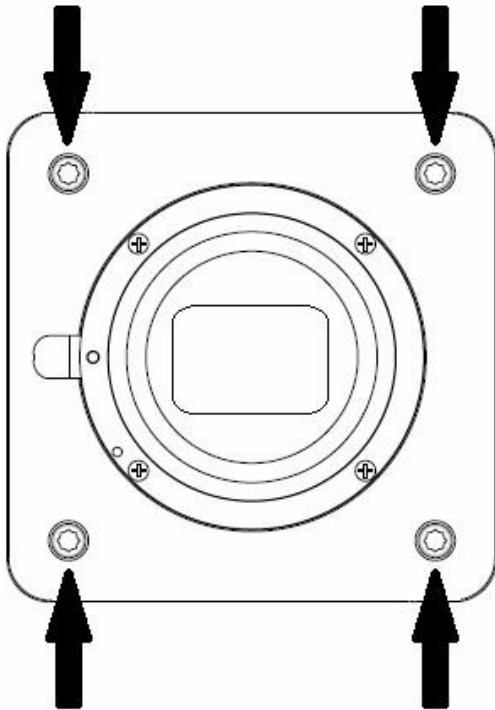

Figure 2-1: Lensmount fixation points
2. Remove the lensmount by unscrewing the 4 screws (m3x6 screws; torx10) that hold the lensmount (see figure 2.1).